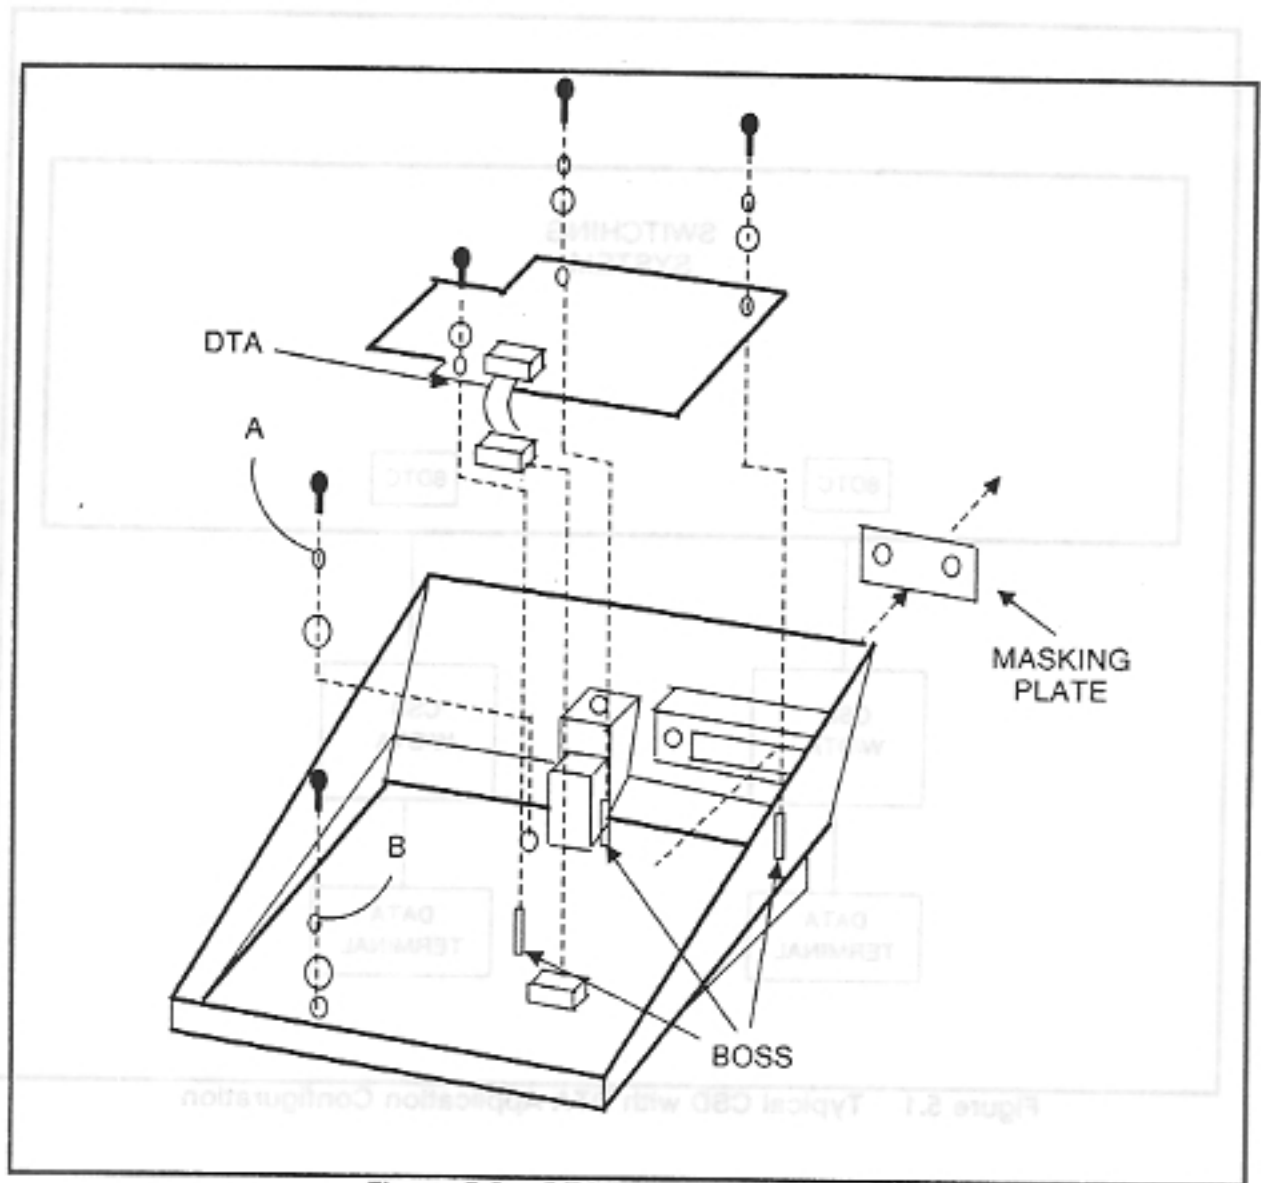

Figure 5.2 DTA Installation in CSD
Referring to Figure 5.2, install the DTA card in the CSD telephone as follows:
4. Install the two grounding wires to the CSD control circuit card. See Figure 5.2. Grounding wire A is 2 inches (50 mm) long. Grounding wire B is 8-5/8 inches (220 mm) long. Each wire is attached with a washer and a screw.